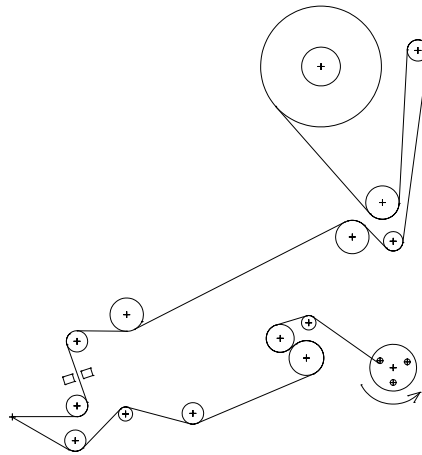

Figure 4.1
5. Thread label sheet according to diagram (Figure 4.1). As label stock is threaded, ensure labeler conveyor is free of disposed labels.